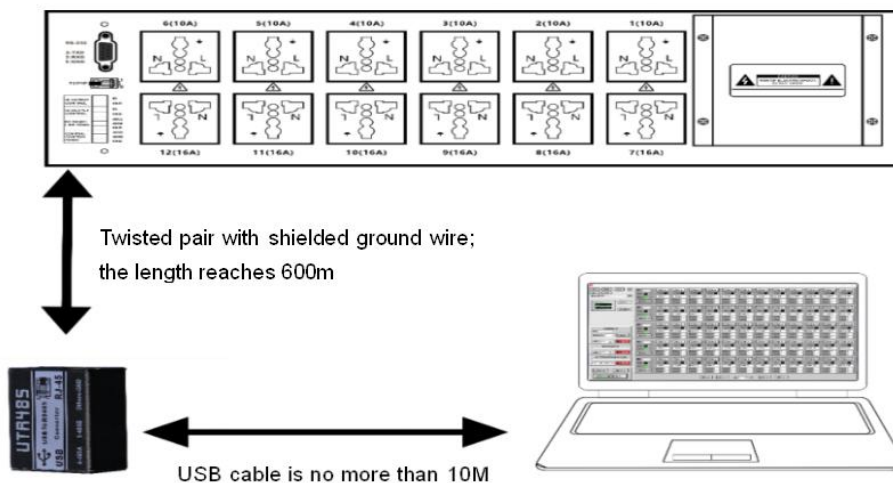

Figure 2
Step 2: Use the optional USB to 485 cable or other 485 cables to connect the USB port of the PC to the LINK IN port on the rear panel of the device. This is suitable for remote control of a single device with a PC, and the maximum distance can exceed 600m, as shown in Figure 2 below. The definition of the LINK IN and LINK OUT ports on the rear panel is shown in Figure 3.